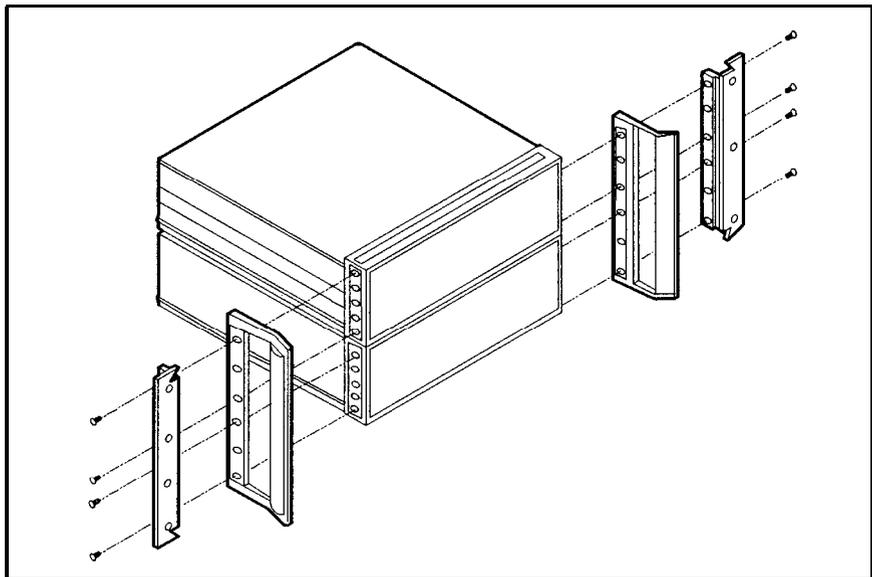

Figure 2-10. Attaching the Rack Handles and Flanges
9. Attach the 10 1/2-inch handles with flanges as shown in Figure 2-10.